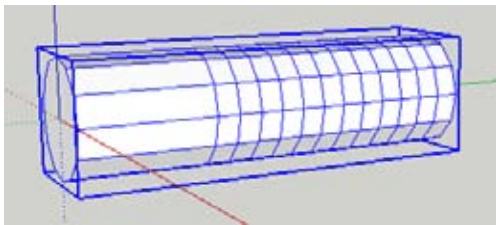

Figure 2-93
4. This set of polygon faces forms the reference geometry, so make it into a group (Figure 2-93).